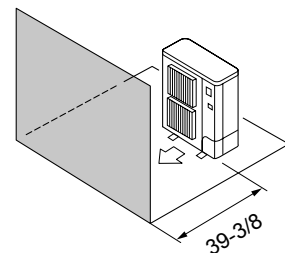

Fig. 2-9
- ④ Obstacles at front only (Fig. 2-9)